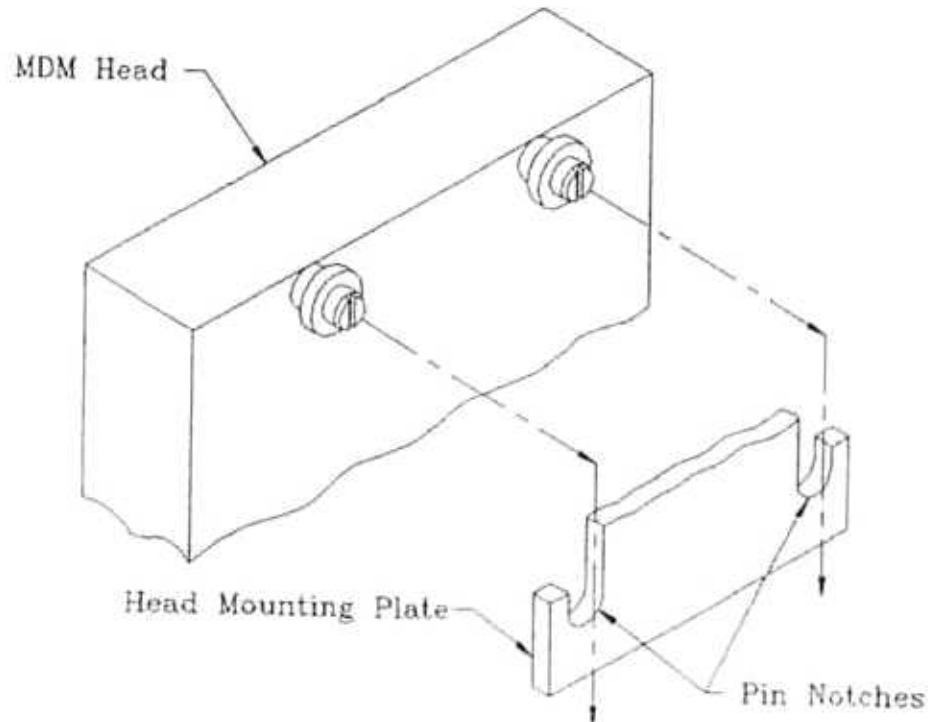

Figure 10
- D. Position the back of the analgesia head parallel with the head mounting plate. Slide the head downward until spacers, installed in step "A", are engaged in the pin notches. (See fig 10).